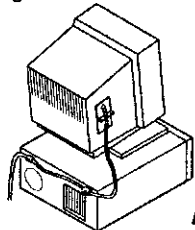

Fig. 1
1. See Fig. 1. Unlock Cable Loc by inserting key into lock and turning counter clock wise until lock body is about 1/2 inch out of cylinder (Fig. 2).
Use of Cable Nut fasteners to attach a Cable to equipment is the most positive method of attachment and can be used as an anchor point. Remove up to two case screws from the unit to be secured, preferably at the rear. It is best to use screws that secure the cover on to the chassis. Align the small hole of a Cable Nut over the hole on the unit and, if possible, use the same screws to attach the Cable Nut (Fig. 1). If the case screw does not fit, use a provided screw. The Cable Nut is now firmly attached. The screws can not be removed when the Cable is threaded (Fig. 2) through the Cable Nut, attached to the work surface and locked to the Cable Loc (Fig. 3), deterring theft and preventing unauthorized access to the inside of the equipment.
A Cable Plate may be used to attach a Cable to a piece of equipment (Fig. 1) or to anchor the Cable to the work surface (Fig. 2). Choose a flat smooth surface. Clean the area with the provided alcohol wipe and allow area to air dry. Remove the liner paper from the Cable Plate and firmly press the Plate onto the surface. Hold even pressure for approximately one minute. Since the adhesive bond grows stronger over time, let the Plate(s) "cure" for 24 hours before attaching Security Cable. **NOTE:** For additional security a Cable Plate may also be fastened to the surface by using two #6 x 5/8" sheet metal screws through the holes on the Plate (Fig. 2).
1. See Fig. 1. Determine location on unit (#1) where the Flex Pad (#2) is to be attached. Pad may be trimmed to fit area, if necessary (Fig. 6). Lightly scratch or sand the area where the Flex Pad is to be adhered. Clean the sanded area of equipment with provided alcohol wipe and allow to air dry.